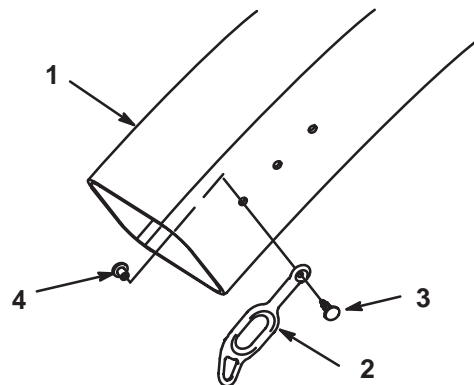

Figure 9
1. Attach rubber latch to bottom hole in tube. Insert barbed fastener through rubber latch, tube and press into flange spacer on inside of tube (Fig. 9).